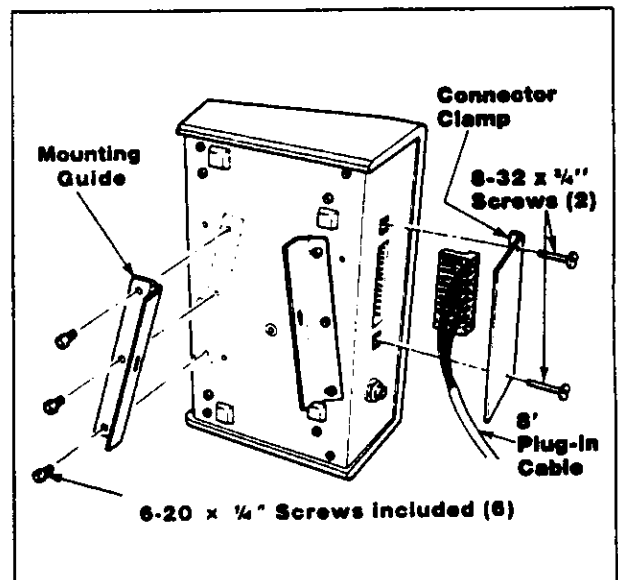

Figure 3. Attaching R-30 Mounting Guides
### 1. R-30 CONTENTS (SEE FIGURE 3)
2. **MOUNTING** - Attach the "A" mounting bracket to an electrical box per figure 2-C or to a pedestal mount per its instructions. Attach the mounting guides per figure 3 using the hardware included.